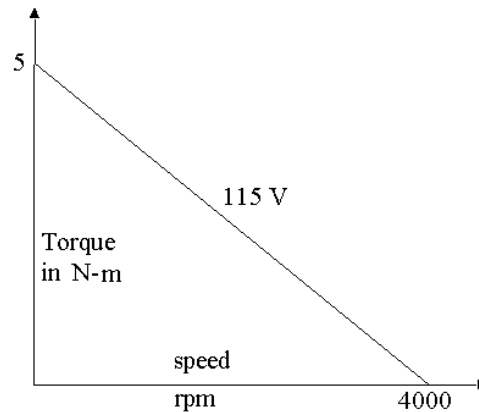

Fig.2
Q.10 Obtain the transfer function of the two-phase servo-motor whose torque-speed curve is shown in Fig.2. The maximum rated fixed-phase and control-phase voltages are 115 volts. The moment of inertia of the motor (including the effect of load) is $7.77 \times 10^{-4} \text{ Kg-m}^2$. Motor friction (including the effect of load) is negligible. (7+7)